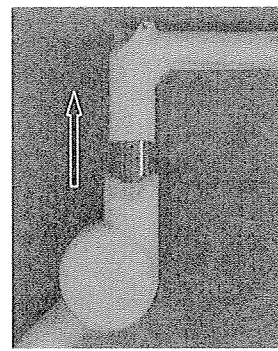

Figure 17: Extension Arm
3. Slide the spring arm assembly up into the end of the extension arm. See Figure 17.